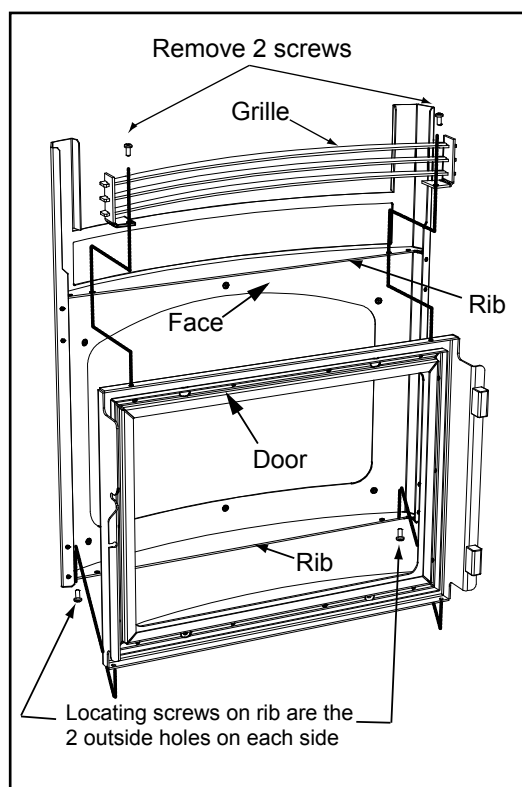

Figure 20.1
1. While holding door to face, remove 2 screws from grille and remove existing grille. **Figure 20.1.**